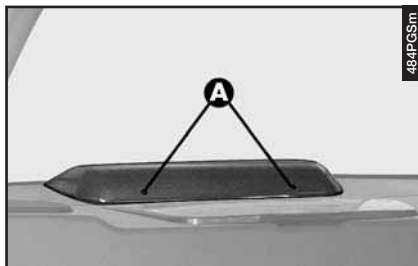

fig. 63
- Remove the rubber caps (**A**-**fig. 63**).
- Refit the protective caps (**A**-**fig. 63**).